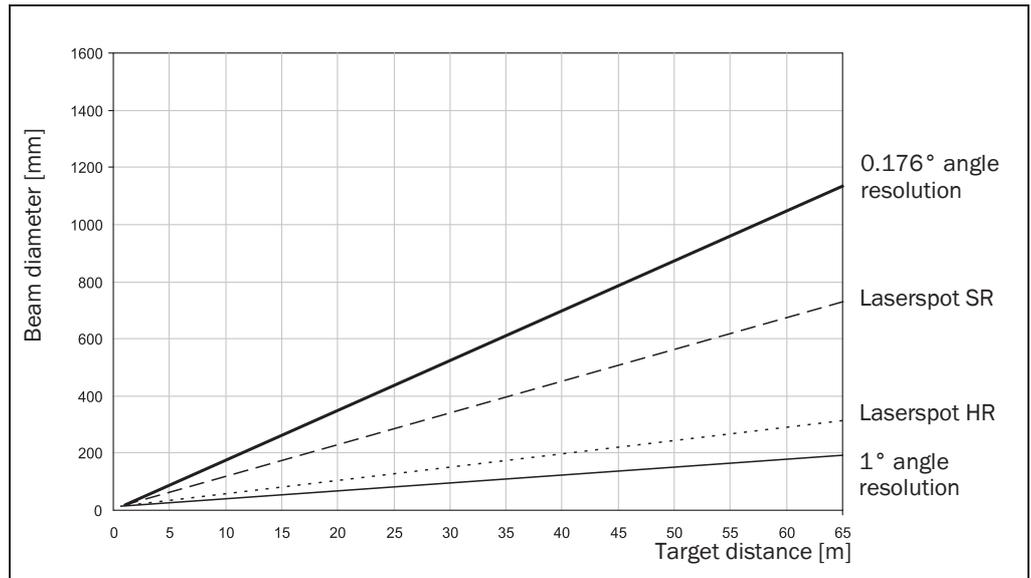

Fig. 13: Beam diameter and distance between measured points of LMS500 at 0 to 65 m (0 to 213.25 ft)
The diagram in Fig. 13 shows the beam diameter and the measured point spacing as a function of the distance from the LMS.
Example for angular resolution 0.167° (HR) in Fig. 13
➤ For beam diameter and measured point spacing as a function of the distance from the LMS see the diagram in Fig. 13.